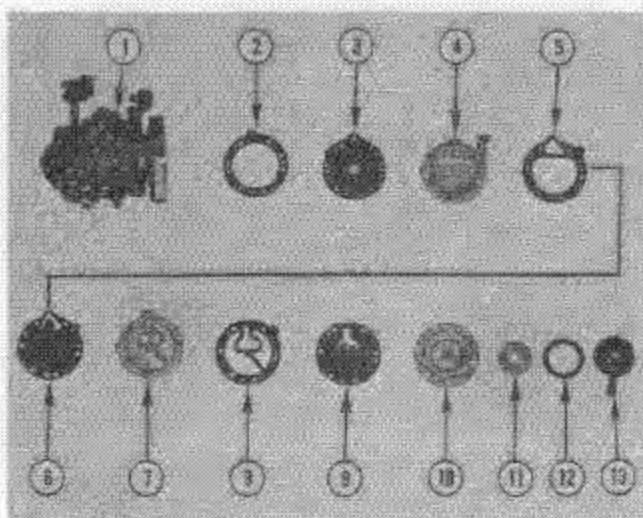

Fig. 27 — HR Carburetor (Identification of Parts)
a. Refer to Figs. 27 or 28, depending on model
c. Refer to Figs. 27 or 28 and install remaining parts into carburetor in sequence of numbers given (2 through 13).